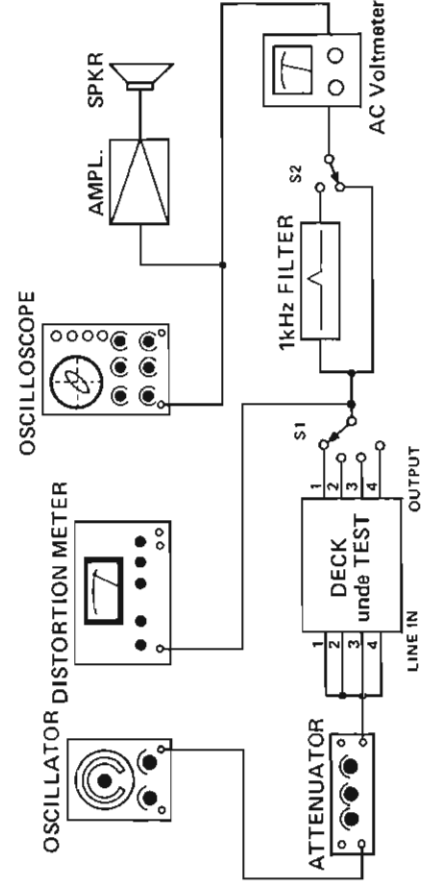

Fig. 5-17 Basic test setup
5. Unless otherwise stated, use the basic test setup (Fig. 5-17), where the 1-kHz filter is bypassed.